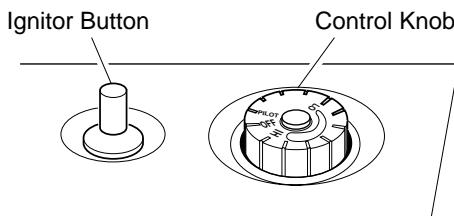

Figure 17 - Control Knob In The OFF Position
4. Wait five (5) minutes to clear out any gas. Then smell for gas, including near the floor. If you smell gas, STOP! Follow "B" in the safety information in column 3, page 11. If you don't smell gas, go to the next step.
5. Turn control knob counterclockwise  to the PILOT position. Press in control knob for five (5) seconds (see Figure 17).